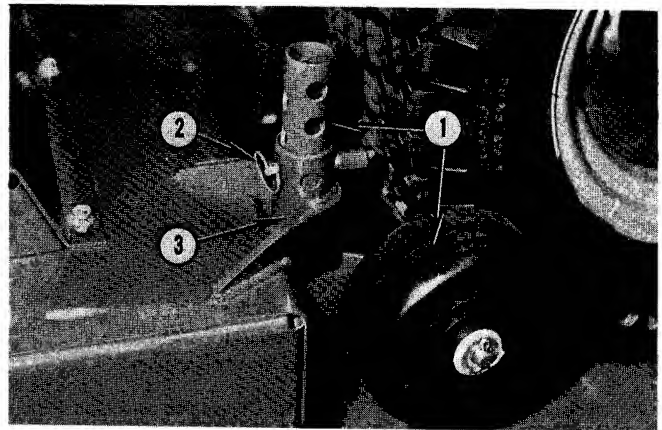

Fig. 36 — Preparing Mower
3. Install gauge wheel unit, No. 1, Fig. 36, to bracket, No. 3, and secure with klik pin, No. 2. Repeat for other side.